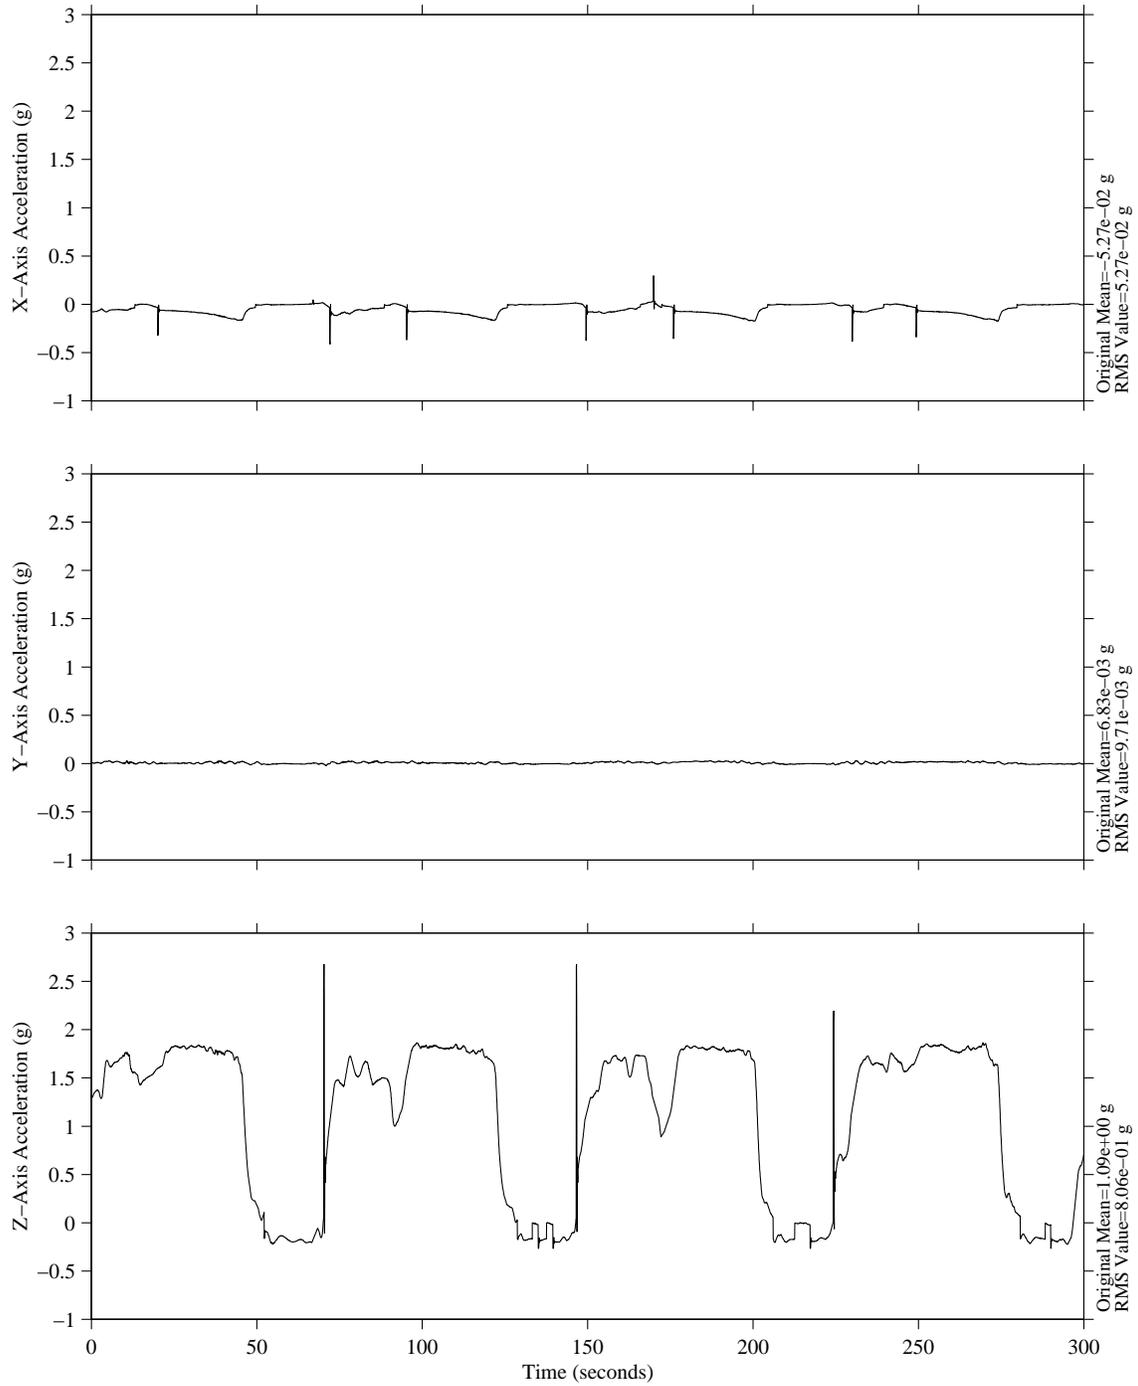

Figure 11-4
- **Figure 11-4 illustrates the KC-135 overall environment over multiple parabolas during a typical campaign as recorded by SAMS**